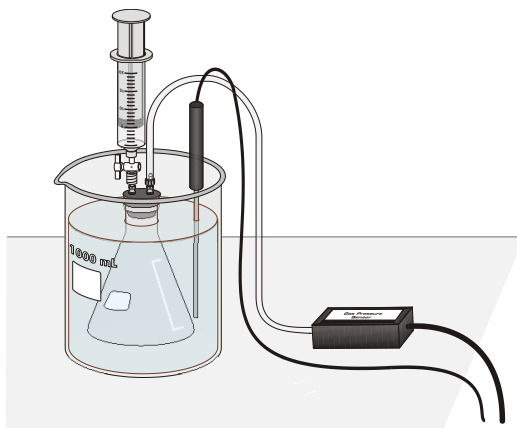

Figure 1
5. Use the clear tubing to connect the white rubber stopper to the Gas Pressure Sensor. (About one-half turn of the fittings will secure the tubing tightly.) Twist the white stopper snugly into the neck of the Erlenmeyer flask to avoid losing any of the hydrogen gas that will be produced in the reaction (see Figure 1). **Important:** Close the valve on the white stopper by turning the white handle so it is perpendicular with the valve stem.
6. Obtain a small amount of 1.0 M hydrochloric acid. **CAUTION:** *Handle the hydrochloric acid with care. It can cause painful burns if it comes in contact with the skin.* Draw 5 mL of HCl solution into the 20 mL syringe. Thread the syringe onto the two-way valve on the white stopper (see Figure 1). Submerge the Erlenmeyer flask into the water bath. Position the Temperature Probe in the water bath so that the tip of the probe is not touching the beaker.